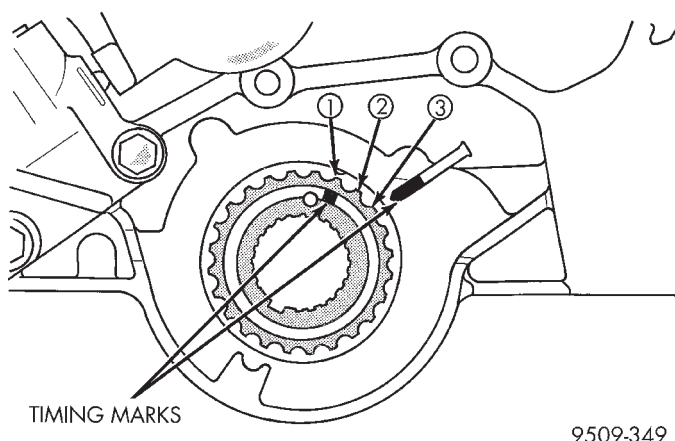

Fig. 55 Crankshaft Sprocket Timing
- (1) Set crankshaft sprocket to TDC by aligning the sprocket with the mark on the oil pump housing, then back off to 3 notches before TDC (Fig. 55).